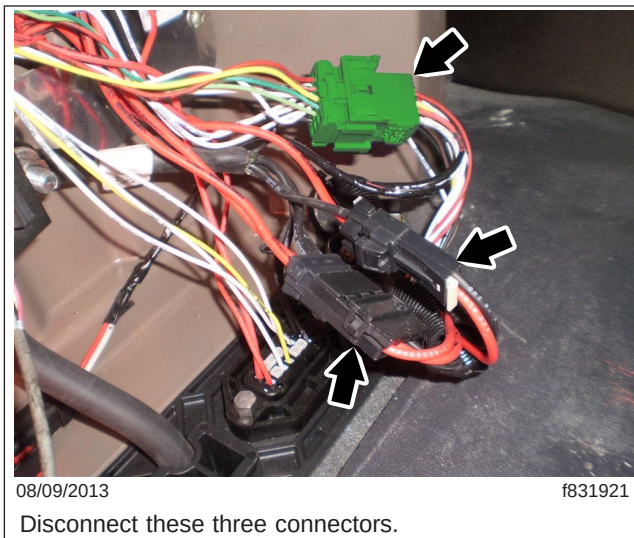

Fig. 3, Electrical Center, Vehicles with DDC O/I
7. Disconnect the three harness connections between the electrical center and the harness. See **Fig. 3**.